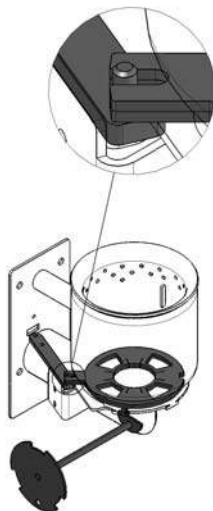

Fig. 121
- Lift the grate plate from below using the removal tool and remove it (Figs. 121, 123, 135), scrape off ash residues from the top and bottom of the grate plate and from the hole in the middle using the spatula to clean it.
- Insert the grate plate, making sure the projection/opening of the grate plate projects through the driver of the driving rod and rests fully on the bottom grate plate – Figs. 121, 123, 125.